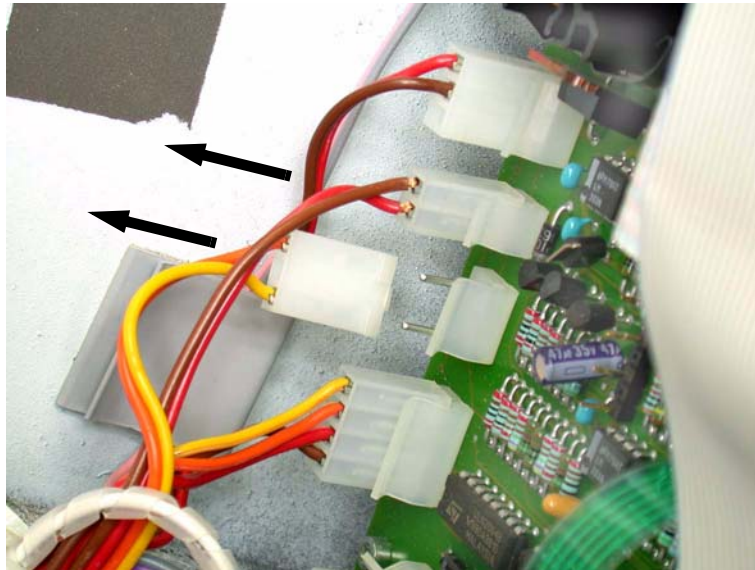

Figure 11-167. Removing the cables from the connector board
3. Remove from the connector board, the two cables running from the nebulizer compressor to the connector board. (One comes from the motor, one from the valve situated behind the compressor). (Figure 11-167.)